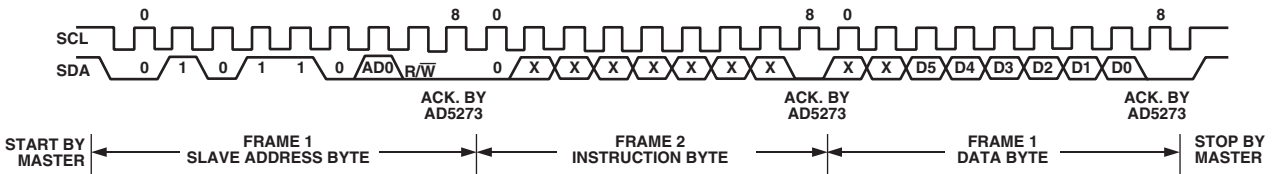
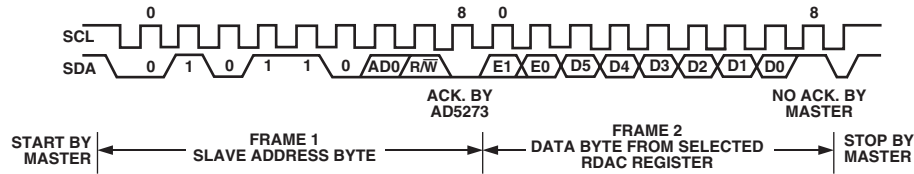

Figure 10a. Writing to the RDAC Register
Figure 11. Reading Data From the RDAC Register
For users who do not use the software solution, the AD5273 can be controlled via an I²C compatible serial bus and is connected to this bus as a slave device. Referring to Figures 10a, 10b, and 11, the 2-wire I²C serial bus protocol operates as follows:
1. The master initiates data transfer by establishing a START condition, which is when SDA goes from high to low while SCL is high, Figure 10a. The following byte is the Slave
2. A Write operation contains one more Instruction byte than the Read operation. The Instruction byte in the Write mode follows the Slave Address byte. The MSB of the Instruction byte labeled T is the One Time Programming bit. After acknowledging the Instruction byte, the last byte in the Write mode is the Data byte. Data is transmitted over the serial bus in sequences of nine clock pulses (eight data bits followed by an Acknowledge bit). The transitions on the SDA line must occur during the low period of SCL and remain stable during the high period of SCL. See Figure 10a.
3. In the Read mode, the Data byte follows immediately after the acknowledgment of the Slave Address byte. Data is transmitted over the serial bus in sequences of nine clock pulses (slight difference with the Write mode, there are eight data bits followed by a No Acknowledge bit). Similarly, the transitions on the SDA line must occur during the low period of SCL and remain stable during the high period of SCL as shown in Figure 11.
4. When all data bits have been read or written, a STOP condition is established by the master. A STOP condition is defined as a low-to-high transition on the SDA line while SCL is high. In the Write mode, the master will pull the SDA line high during the tenth clock pulse to establish a STOP condition, Figures 10a and 10b. In the Read mode, the master will issue a No Acknowledge for the ninth clock pulse, i.e., the SDA line remains high. The master will then bring the SDA line low before the tenth clock pulse which goes high to establish a STOP condition. See Figure 11.